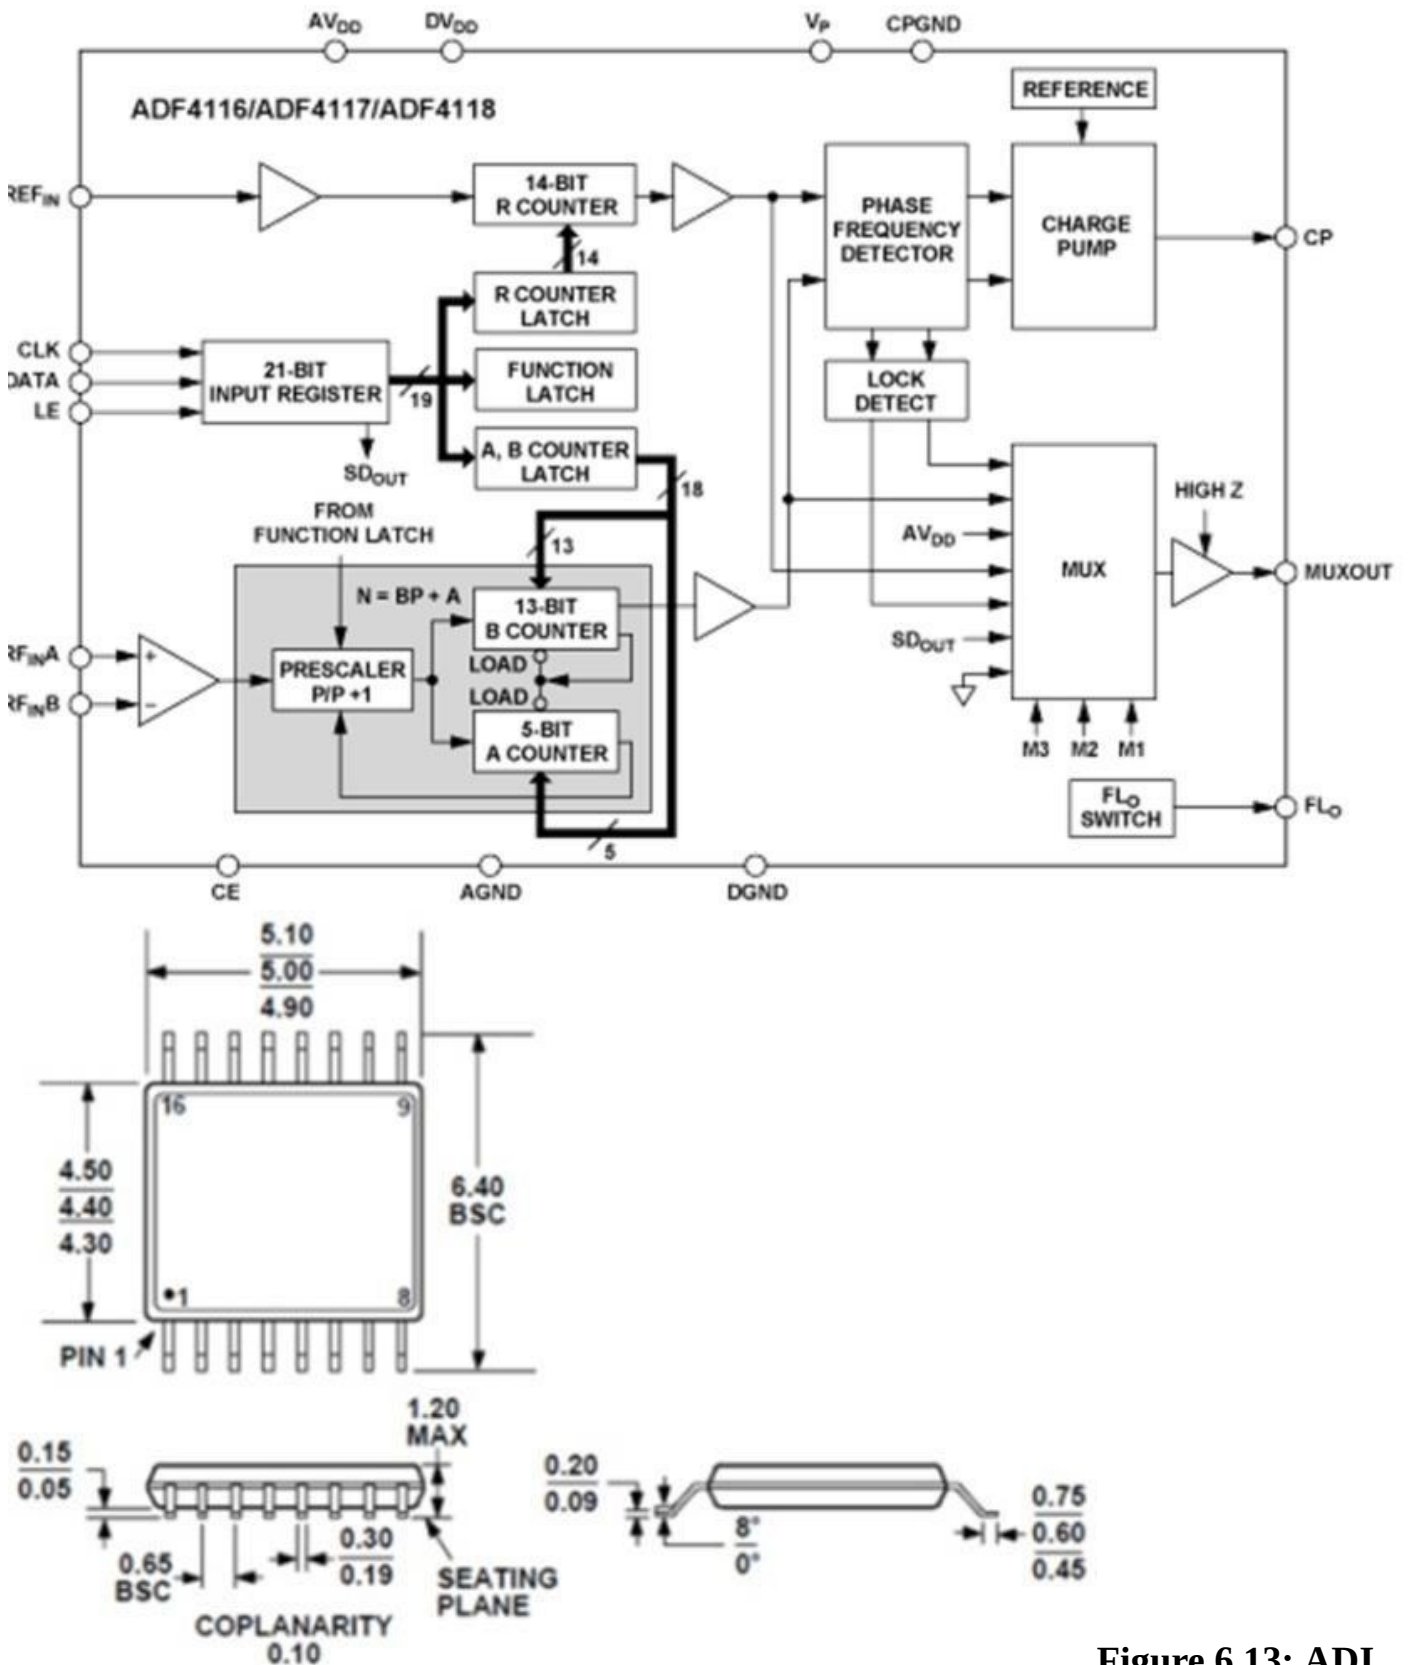

Figure 6.13: ADI
The number and variety of PLL parts is staggering. Analog companies offer series of PLL chips with a variety of functions. Figure 6.13 shows an Analog Devices PLL (ADF4116/4117/4118) functional block diagram, package outline, and dimensions. According to the datasheet, “The ADF411x family of frequency synthesizers can be used to implement local oscillators (LO) in the up-conversion and down-conversion sections of wireless transceivers. They consist of a low noise digital phase frequency detector (PFD), a precision charge pump, a programmable reference divider, programmable A and B counters, and a dual-modulus prescaler (P / P + 1)”. This PLL does not include VCO, which is external to the part.